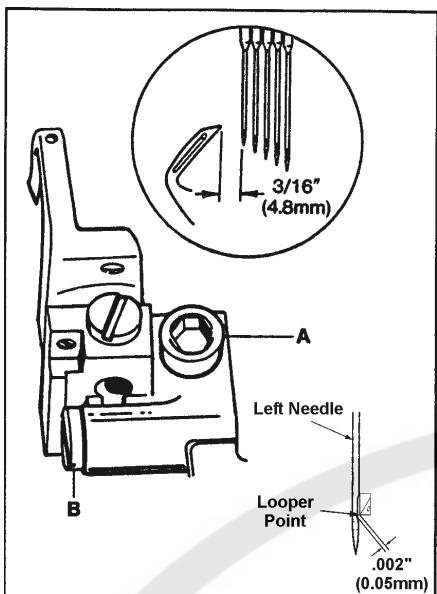

FIG. 15
Turn the handwheel in operating direction until the looper has traveled fully to the left. Loosen screw (A, Fig. 15) and move the looper holder to the right or left until the distance from the point of the looper to the center of the first (left) needle is $3/16"$ (4.8mm) (Looper gauge 21225F3/16 can be used for a more accurate measurement). Clearance between the looper point and the scarf of the needle must not exceed $.002"$ (0.05mm). Turn screw (B) until the $.002"$ (0.05mm) dimension is achieved. Tighten screw (A).